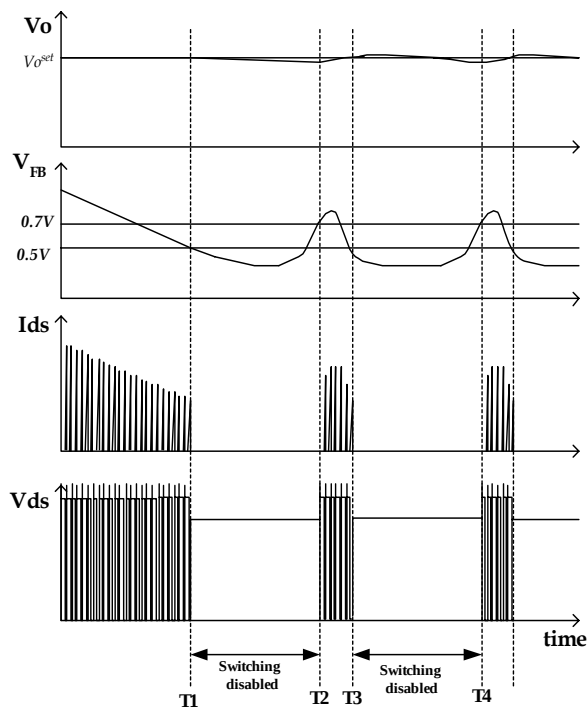

Figure 8. Waveforms of burst operation
5. Burst operation : In order to minimize power dissipation in standby mode, the FSDM0565RB enters burst mode operation. As the load decreases, the feedback voltage decreases. As shown in Figure 8, the device automatically enters burst mode when the feedback voltage drops below $V_{BURL}(500\text{mV})$. At this point switching stops and the output voltages start to drop at a rate dependent on standby current load. This causes the feedback voltage to rise. Once it passes $V_{BURH}(700\text{mV})$ switching resumes. The feedback voltage then falls and the process repeats. Burst mode operation alternately enables and disables switching of the power Sense FET thereby reducing switching loss in Standby mode.